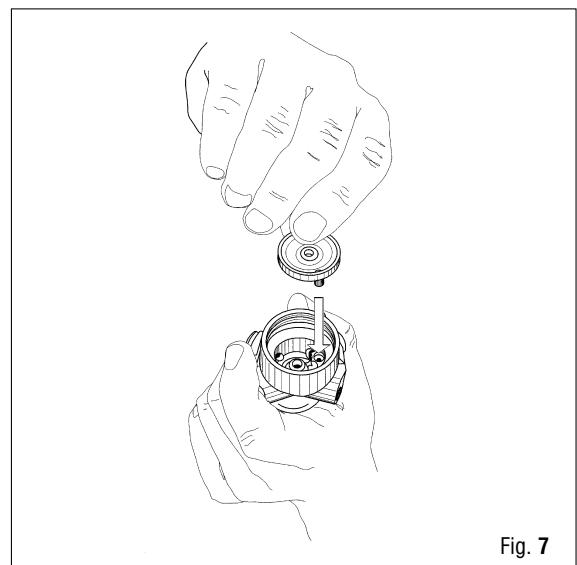

Fig. 7
25. Rotate the first stage and correctly position the DFC washer (189) in the groove of the first stage body (Fig. 7).
26. Insert the pin (12) in the center hole in the DFC washer (189).